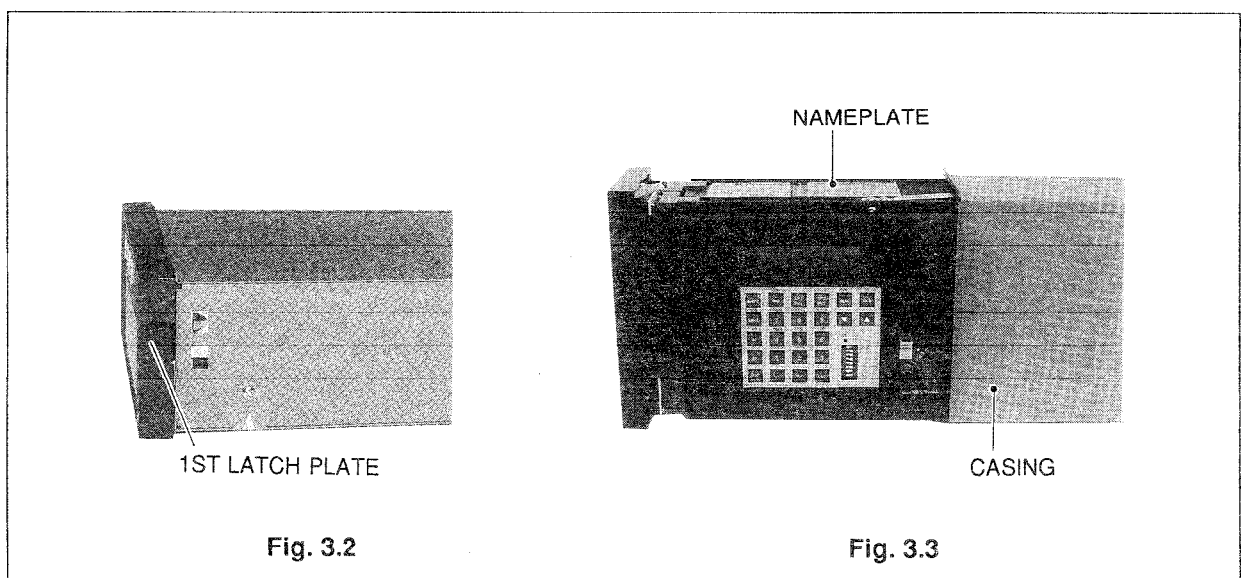

Fig. 3.2
- ① Pressing the latch plate located at the bottom of the front mask (see Fig. 3.2), pull out the chassis frontward while slightly raising the mask. The chassis will stop at the service position as it will be caught by the second latch.